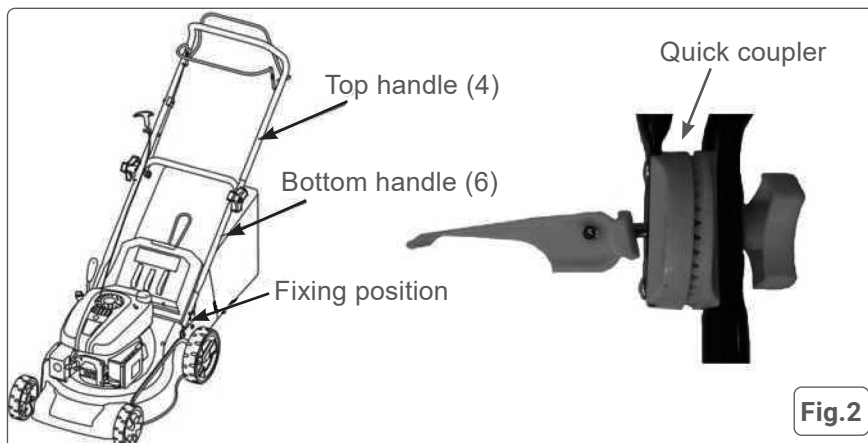

Fig.2
- Identify the control lever assembly Items 1 and 2 from the parts list above, refer to the diagram below to on how to rotate and position parts 4 and 6 together and secure in place with the quick coupler (See Fig. 2).
- Once the handle is bolted to the mower lift the handle panel (13) up and place it onto the handle assembly use the screws already in the handle arms to screw into place, ensure all the cables are free, not obstructed or wrapped around the handle.